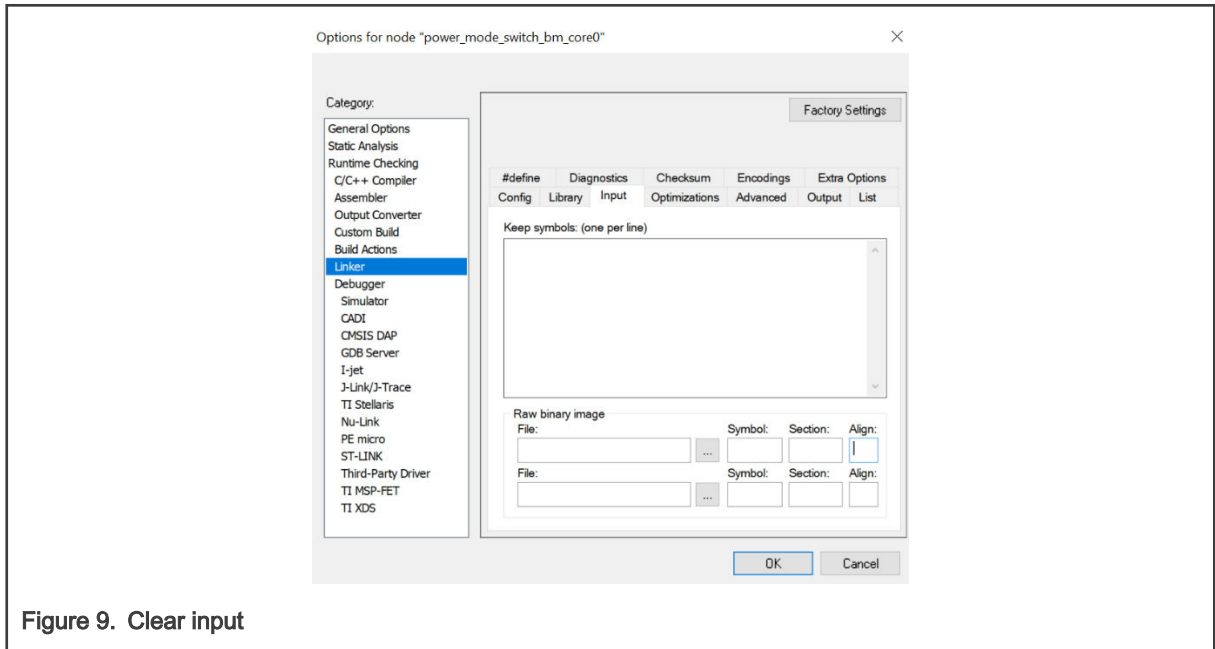

Figure 9. Clear input
- b. Delete all the information in the linker input as shown in Figure 9